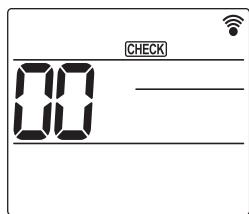

Fig. 6-7
- ① Turn on the power to the unit at least 12 hours before the test run.
- ② Press the **MENU** button for 5 seconds. (Fig. 6-7)